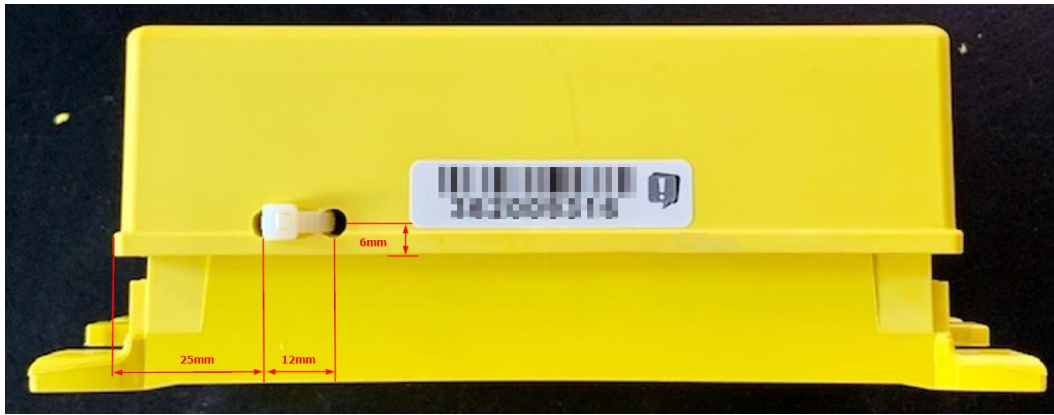

Figure 1: Fall protection with cable tie
- First hole (left hole according to Figure 1: Fall protection with cable tie) 25mm from the left edge (measured at the rebate) and 6mm from the edge of the rebate.
- Second hole (right hole according to Figure 1: Fall protection with cable tie) 37mm from the left edge (measured at the rebate) and 6mm from the edge of the rebate.